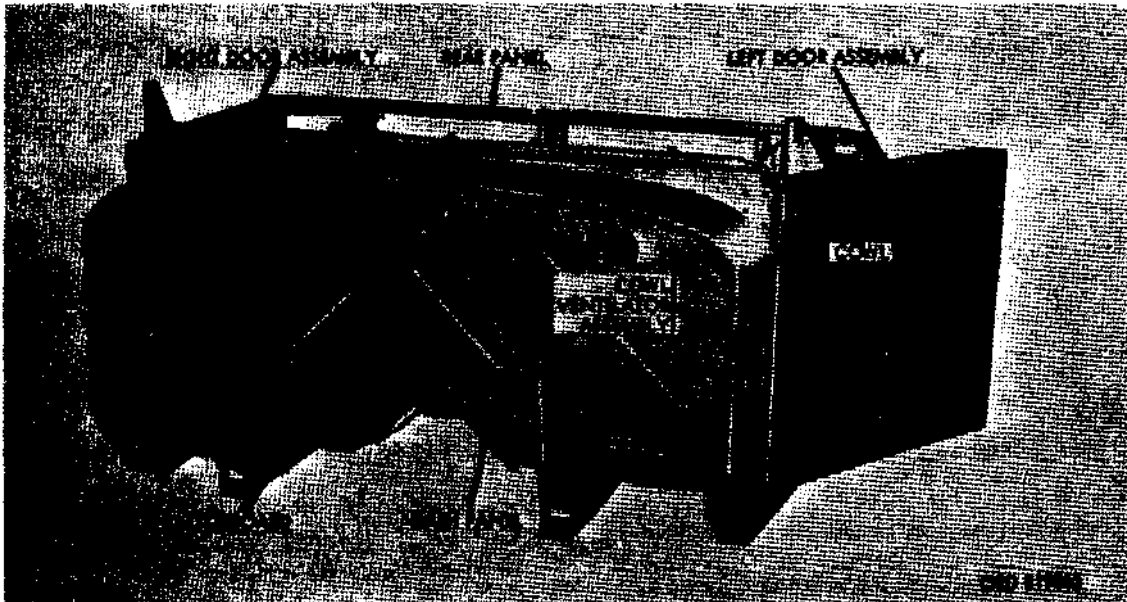

Figure 176. Cab assembly - front view
a. General. The cab assembly (figs. 176 and 177) consists of the cowl, dash panel, toeboard, cowl ventilator assemblies, floor side, and rear panels, door assemblies and the necessary supports, braces, brackets, gussets, reinforcements, etc. Rear gun mount brackets, grab handles, lashing hooks, rear view mirrors, instrument panel, and front intermediate and rear tunnel sections are bolted to the basic cab.